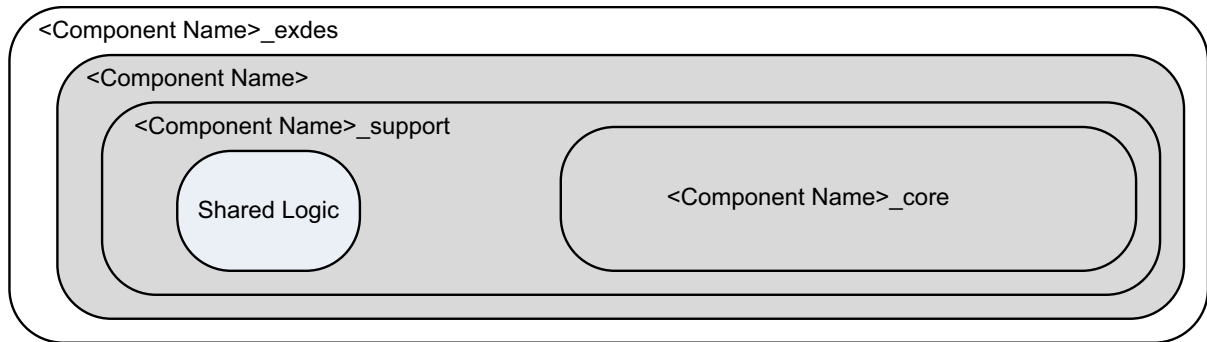
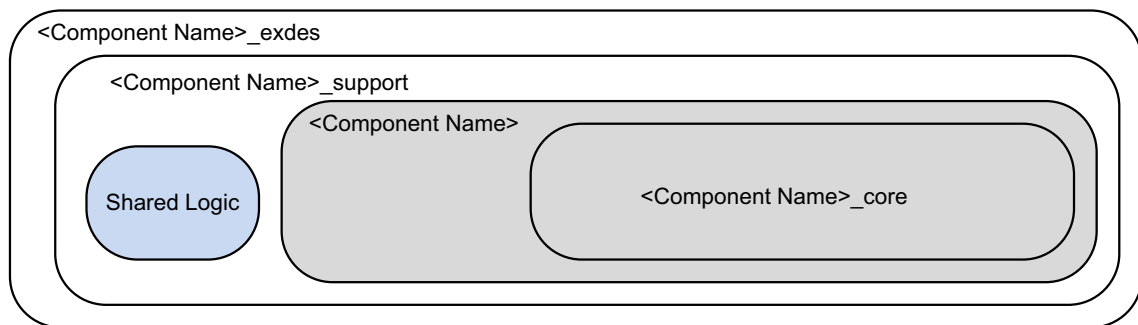

Figure 3-1: Shared Logic Included in Core
Figure 3-2: Shared Logic Included in Example Design
The new level of hierarchy is called `<component_name>_support`. Figure 3-1 and Figure 3-2 show two hierarchies where the shared logic block is contained either in the core or in the example design. In these figures, `<component_name>` is the name of the generated core. The difference between the two hierarchies is the boundary of the core. It is controlled using the **Shared Logic** option in the Vivado IDE (see Figure 5-2).
**Note:** Grayed blocks in Figure 3-1 and Figure 3-2 refer to the IP core.